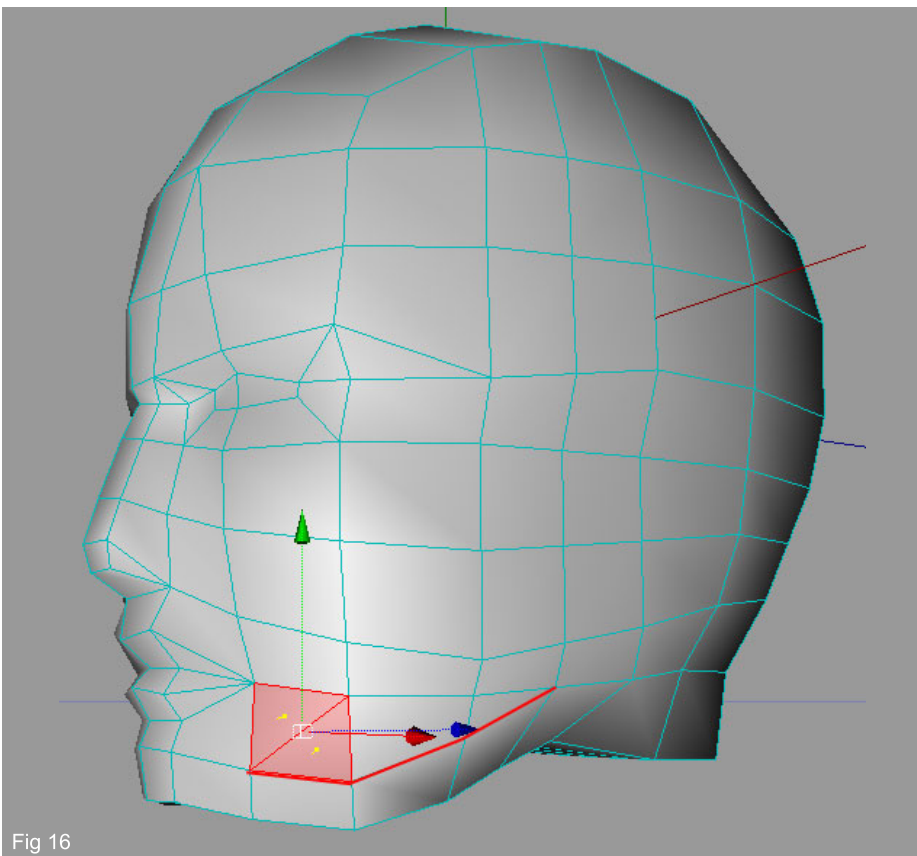

Fig 16
16. To improve the chin a bit more we shall make a further cut to help form the jaw line as shown by the red line in Fig 16. You will also notice that the selected poly (the one we originally cut) is made up of two triangles. We can delete this and create a quad in its place, so right click and choose "Untriangulate" from menu.